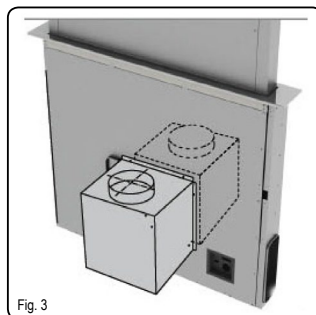

Fig. 3
- If using an internal motor with the downdraft, place the internal motor in the desired position, with the air outlet facing either upwards or downwards (Fig.3).The motor can be installed either on the front or rear of the downdraft. Once the motor is installed, connect the ducting to the air outlets.